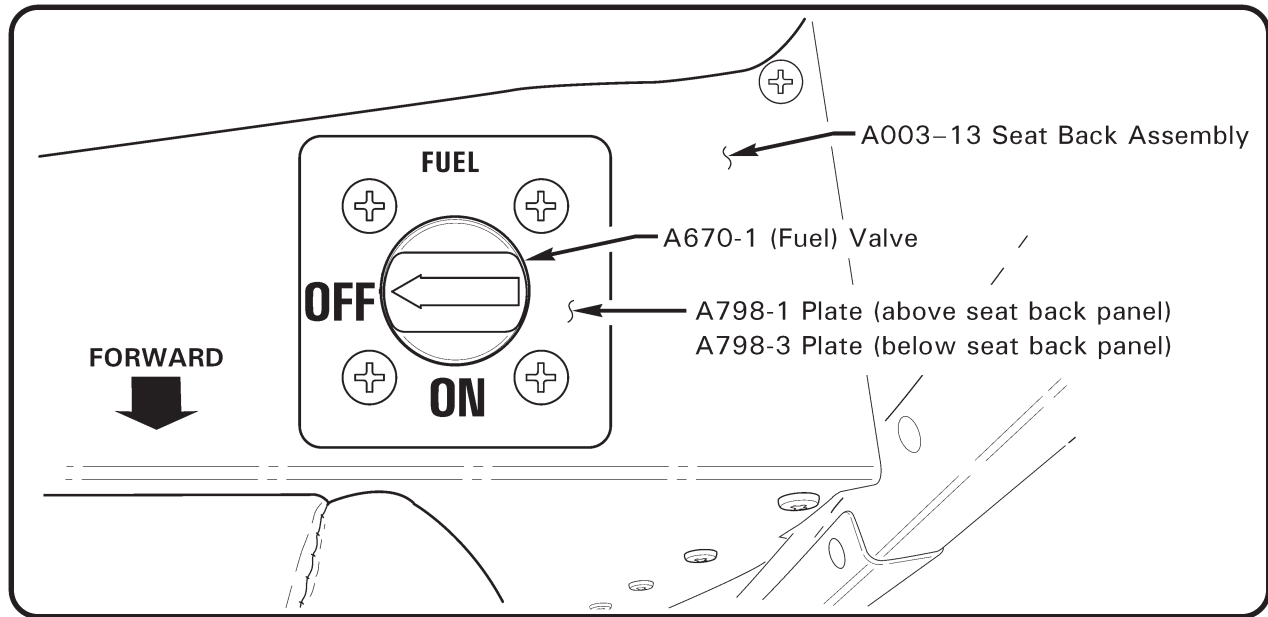

FIGURE 15-1 A798-1 PLATE ORIENTATION (VIEW LOOKING DOWN)
3. Refer to Figure 15-1. Install A798-1 plate on seat back as shown. Special torque screws to 16 in.-lb.
1. Refer to Figure 15-1. Tilt seat assembly forward and position A003-14 seat back assembly on cabin and install screws. Verify security.